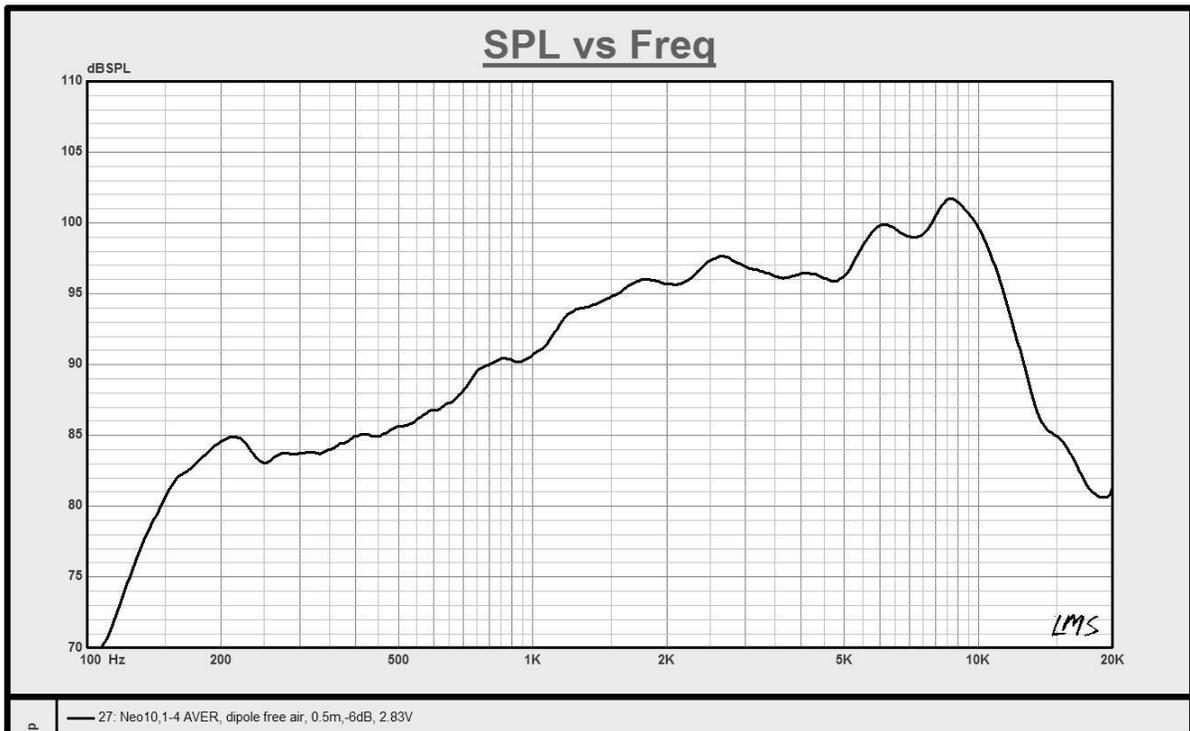

Fig. 1 Neo10 frequency response in a free air, dipole arrangement
- A. Figure 1 reflects a frequency response for a single Neo10 in free air without any baffle loading or enclosure (i.e. in dipole configuration). Predictably, in a dipole configuration, increasing baffle size results in increased low frequency extension and output.